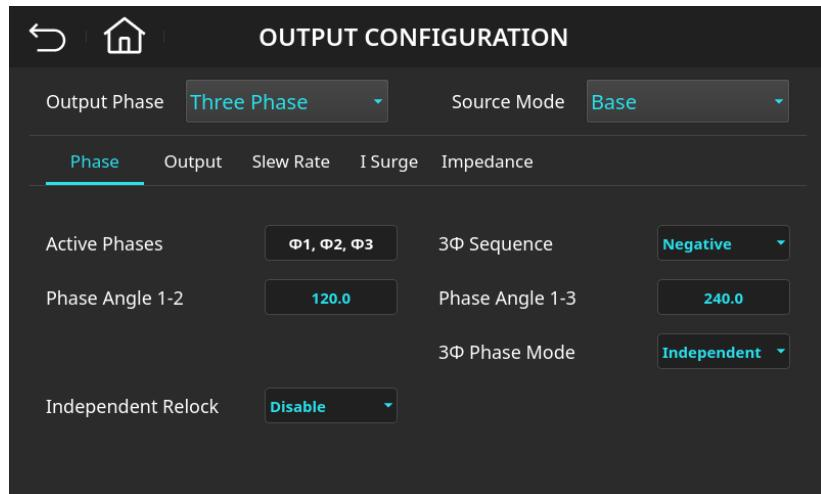

Figure 4-27: Output Configuration (Phase) Page – Negative Phase Sequence Setting
3. Select “Negative”, as shown in Figure 4-27.